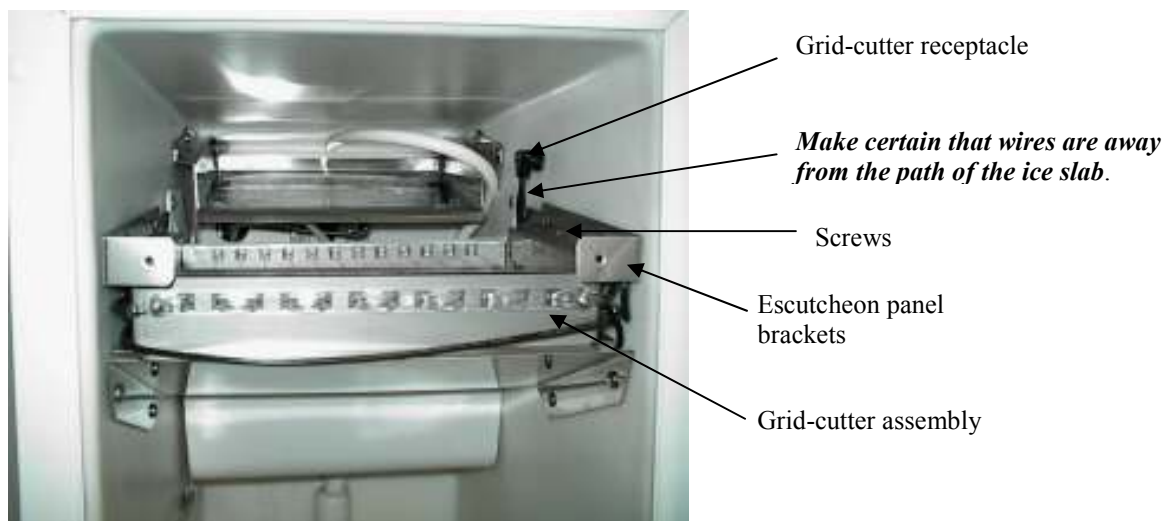

Figure 6.1
2. Unplug the grid-cutter from the receptacle on the side of the liner (see figure 6.1).
3. Remove the four screws that secure the grid-cutter and escutcheon panel brackets (see figure 6.1).
2. Plug the grid-cutter into the receptacle on the side of the liner. Route the plug wire between the reservoir and liner (see figure 6.1). This will keep it away from the path of the ice slab.